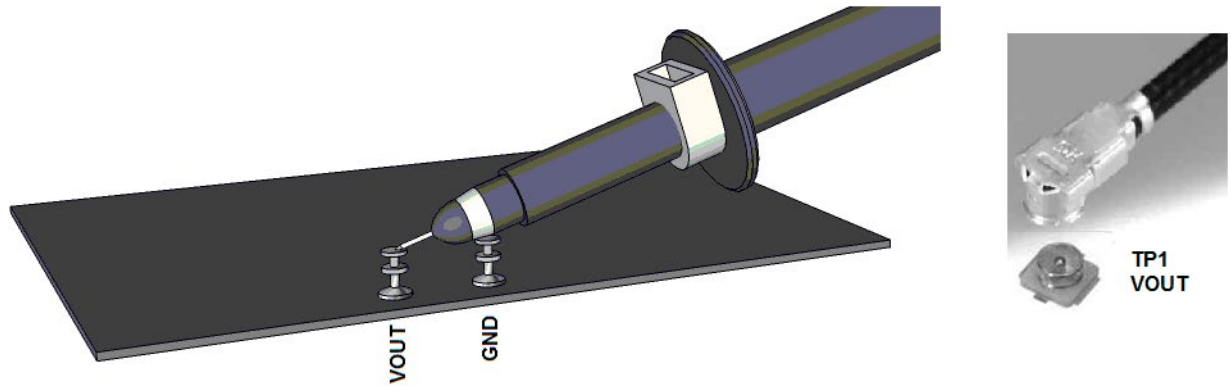

Figure 2. Technique for Measuring Output Ripple and Step Response
4. Connect an oscilloscope voltage probe as shown in Figure 2 in parallel with VM2. Set Channel to AC-coupled, voltage scale to 20mV and time base to 100ns. Observe the V_{OUT} ripple voltage.
NOTE: Measure the output voltage ripple by touching the probe tip directly across the output turrets or to TP1 as shown in Figure 2. TP1 is designed for a 50Ω coax cable to reduce any high frequency noise that might couple into the oscilloscope probes.